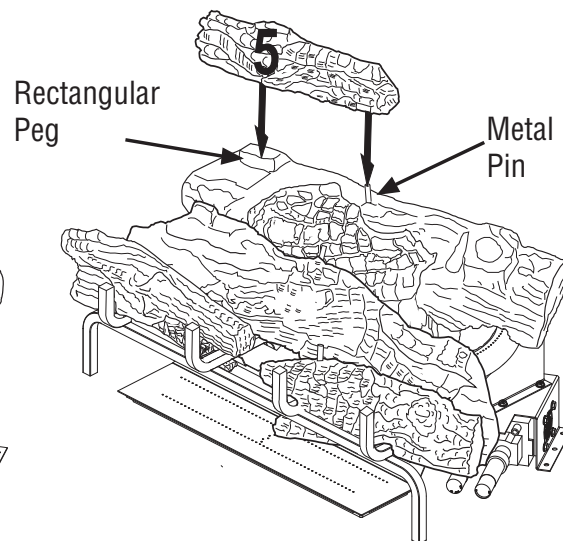

Figure 41 - Installing Log # 5
5. Place the left back top log (#5) on top of the rear log (#1). Match the rectangular peg on top of the left side of the rear log (#1) with the rectangular hole on the bottom of the left back top log (#5). Match the metal pin on the top of the rear log (#1) with the round hole in the bottom of the left back top log (#5). See **Figure 41**.